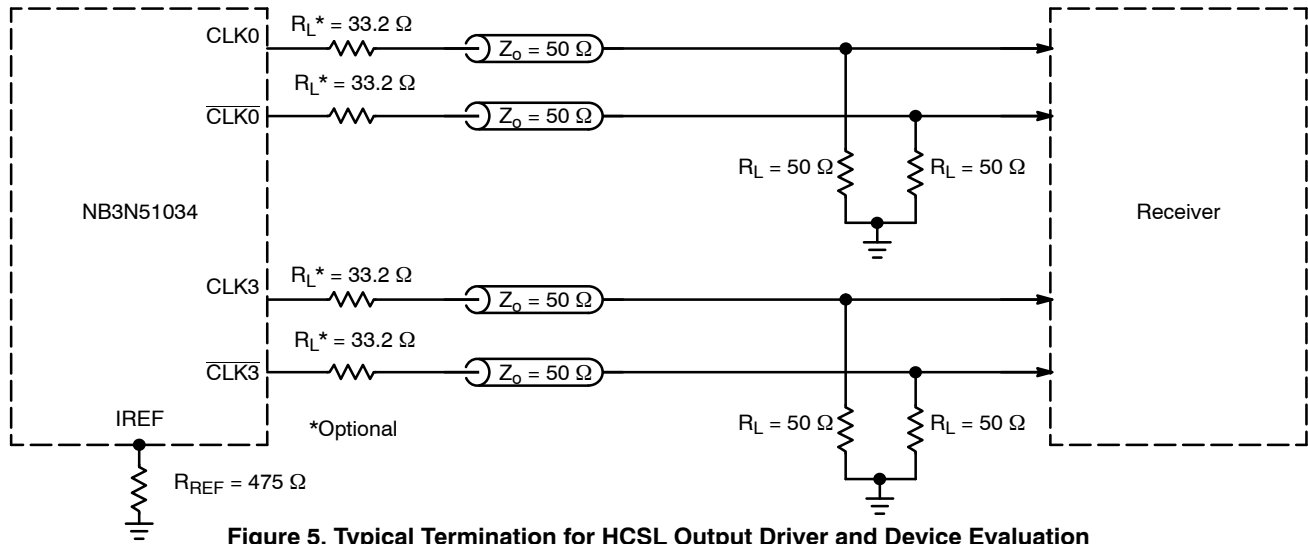

Figure 5. Typical Termination for HCSL Output Driver and Device Evaluation
- Measurement taken with outputs terminated with R_S = 33.2 Ω , R_L = 50 Ω , with test load capacitance of 2 pF and current biasing resistor set at 475 Ω . See Figure 5. Guaranteed by characterization.
5. Measurement taken from differential output on single-ended channel terminated with $R_S = 33.2 \Omega$, $R_L = 50 \Omega$, with test load capacitance of 2 pF and current biasing resistor set at 475 Ω . See Figure 5. Guaranteed by characterization.
19. Measurement taken from differential output on single-ended channel terminated with $R_S = 33.2\ \Omega$, $R_L = 50\ \Omega$, with test load capacitance of 2 pF and current biasing resistor set at 475 Ω . See Figure 5. This parameter is guaranteed by characterization. Not tested in production.